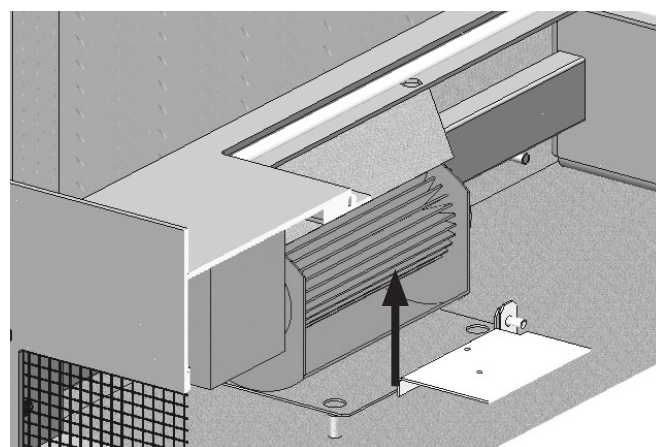

FIG. 12
5. Remove the fans by unscrewing the nuts, disengage the assembly from the hinges and remove it by turning up. (Fig. 12)